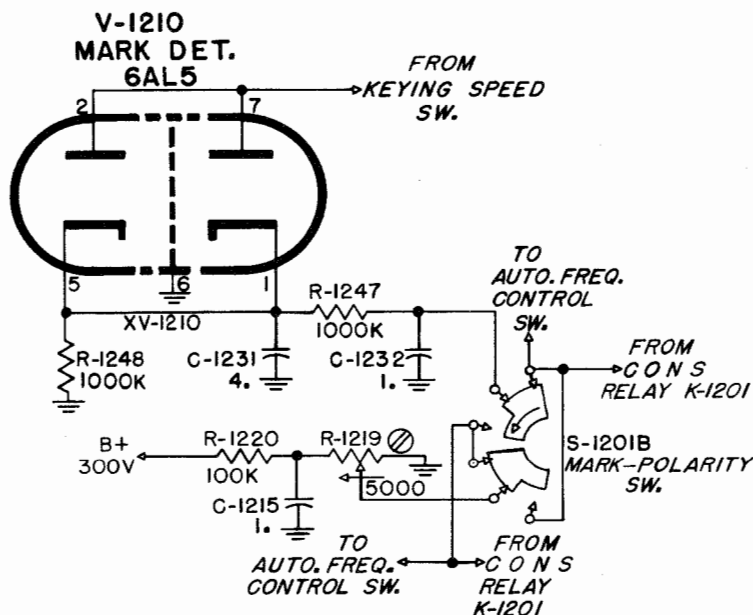

Figure 2-42. Mark Detector Stage V-1210, Simplified Schematic Diagram
(4) MARK DETECTOR V-1210 (CV-127/FRR-24). (See Figure 2-42).—The mark detector tube V-1210, a type 6AL5 dual diode, in conjunction with the fre-